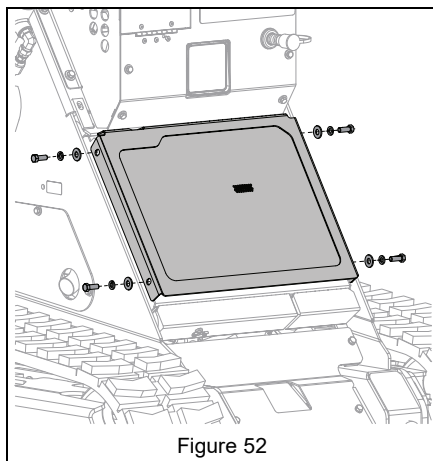

Figure 52
5. Reinstall radiator cover using hardware removed earlier. See Figure 52.